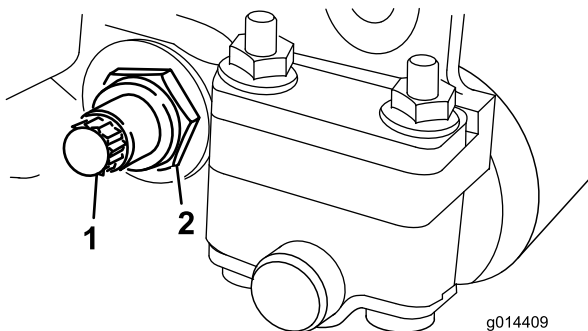
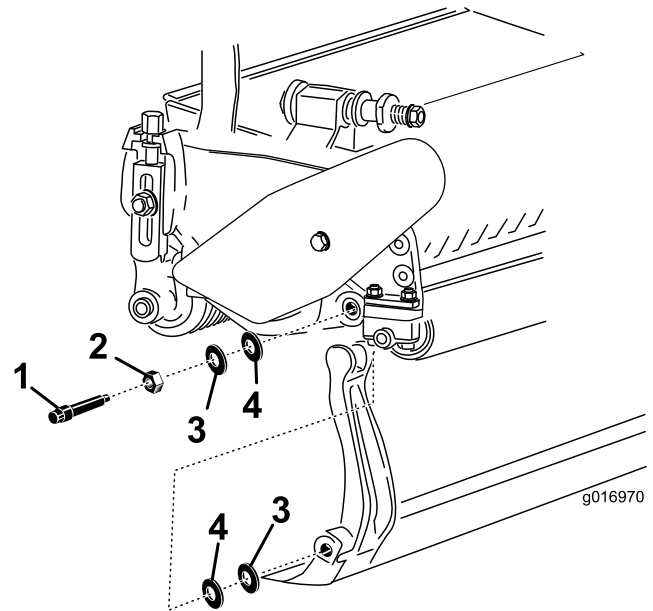

Figure 17
Figure 18
3. On each side of the machine, loosen the locknut securing the bedbar bolt (Figure 17).
4. Remove each bedbar bolt allowing the bedbar to be pulled downward and removed from the machine bolt (Figure 17). Account for the 2 nylon and 2 stamped steel washers on each end of the bedbar (Figure 18).
2. Secure the bedbar to each side plate with the bedbar bolts (nuts on bolts) and 4 washers (8 total). Position a nylon washer on each side of the side plate boss. Place a steel washer outside each of the nylon washers (Figure 18).